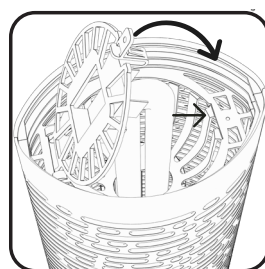

Fig. 3
5. Wearing gloves, gently tug on the bulb to remove. (Fig. 3)
9. Place grate plate back into position as shown in Fig 3 and then pivot grate down over bulb and fasten with screw. Note: do not force grate down. If grate is not closing easily, ensure grate plate is not interfering with bulb end. Some light pressure may be needed to bulb end in direction as shown in Fig 3 to allow grate to clear bulb end and close properly.